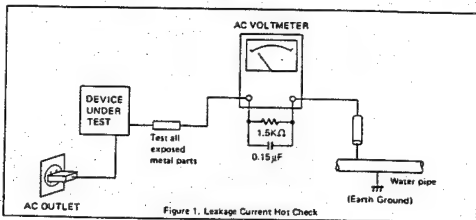

Figure 1. Leakage Current Hot Check
This diagram is only for the E57A. For the E90E,F, refer to the Fig 1. The differences between the E57A's and the E90E,F's are as follows.
E57A. For the E90E,F, refer to the Fig 1.
- 2) Connect a $1.5K\Omega$ 10 watt resistor, paralleled by $0.15\mu F$ capacitor, between each exposed metallic parts on the unit and a good earth ground such as a water pipe, as shown in figure 1.